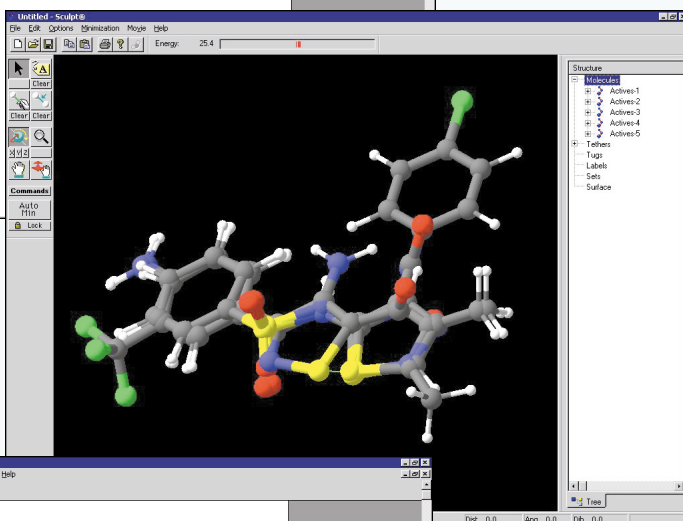

Figure 2
**Figure 2:** Hierarchical clustering of putative pharmacophore points for a set of superimposed ACE inhibitors. Points are for aromatic ring centroids (AR), H-bond donors (HBD), and H-bond acceptors (HBA).
The authors first hierarchically clustered the pharmacophore points using single-linkage or Ward's linkage algorithms. The results are represented as a dendrogram, which scientists can visually trim to include as many and whichever points appear to be meaningful for the pharmacophore. The dendrogram shown in Figure 2, for instance, shows five well-separated clusters from the pharmacophore points generated by the Cheshire for ISIS scripts. Visual examination allows scientists to winnow the list to include those functional properties most worthy of further optimization.
To investigate which features of these structures influence activity, the scientists select “Chemistry → Transfer to SCULPT.” The compounds are seamlessly transferred to SCULPT, converted into 3D models, and automatically aligned to each other (see Figure 2). Several structural features are present in similar orientations among the molecules, including a six-membered aromatic ring, a nearby H-bond acceptor and sulfur atom, and a hydrophobic methyl substituent. The absence of and position of the methyl substituent in Actives-3 and Actives-5, respectively, may explain these compounds’ decreased activity.